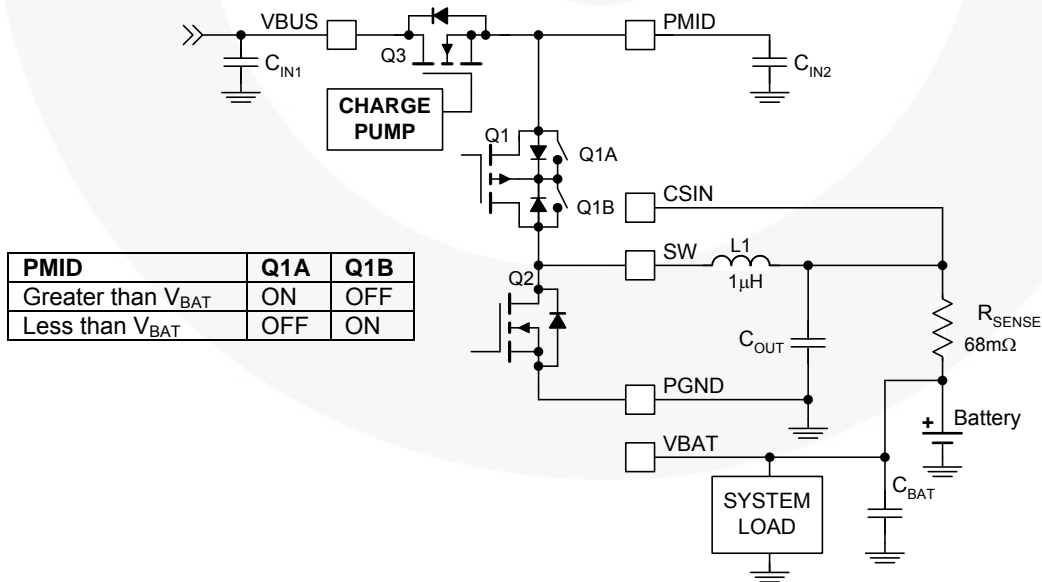

Figure 3. Power Stage
3. A 6.3V rating is sufficient for CMID since PMID is protected from over-voltage surges on VBUS by Q3 (Figure 3).